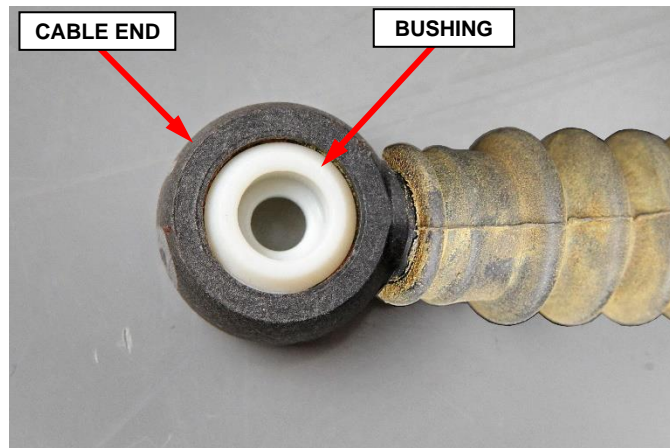

Figure 9 – New Bushing Installed
- Ensure that the new bushing is fully installed into the cable end (Figure 9).